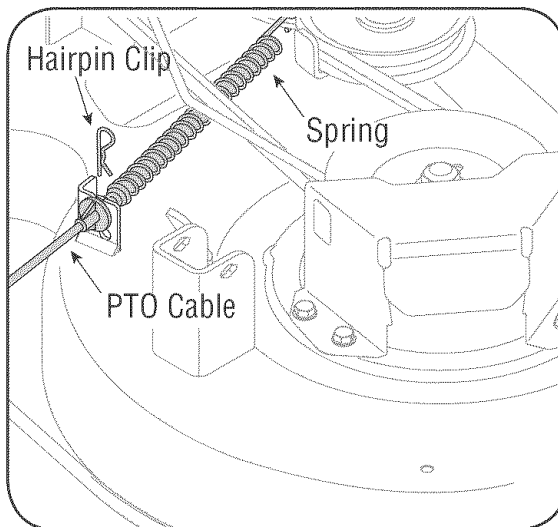

Figure 18
3. Remove the hairpin clip that secures the PTO cable to the rear of the cutting deck. See Figure 18. Remove the PTO cable and accompanying spring from the cutting deck.